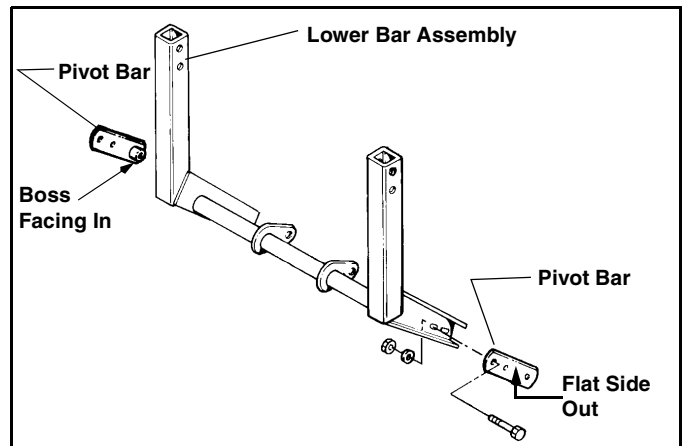

Figure 2
5. Loosely assemble Pivot Bar (#15) to Lower Bar Assembly (#11) outer arms. Use (2) 3/8" x 1-1/4" Cap Screw (#21), with (2) 3/8" Washers (#25) on each Cap Screw and Nylock Nuts (#24) provided per Pivot Bar. (See Figure 2)
NOTE: Raised Boss on Pivot Bar must face to INSIDE of assembly. (See Figure 2)